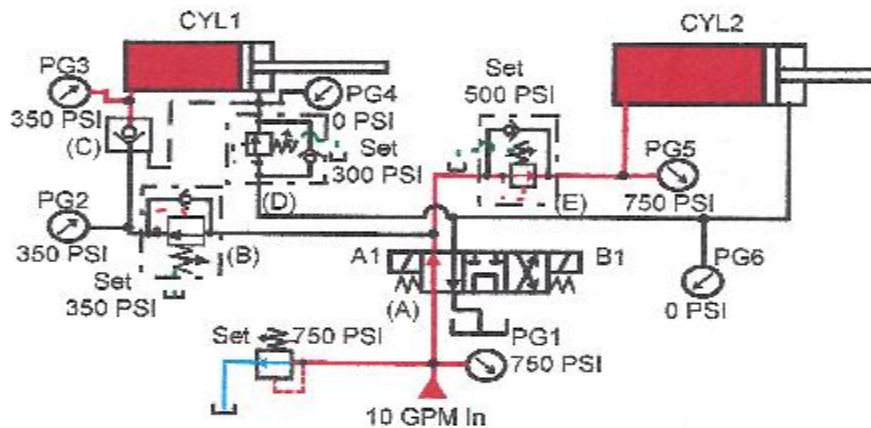

Figure 20-8. Two-cylinder sequence circuit.
When CYL2 bottoms out, as in Figure 20-8, pressure at gauges PG1 and PG5 goes to 750 psi and the system relief valve starts dumping fluid to tank. Pressure at CYL1 stays at 350 psi because reducing valve (B) will not let it go higher. Reducing valve (B) prevents CYL1 from crushing the part while CYL2 does its work.